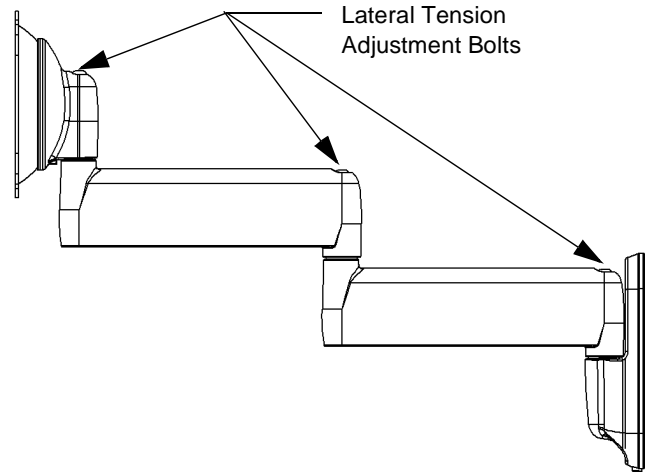

Figure 10: Adjust Lateral Tension
1. Using a 3/16" hex wrench (90), slightly tighten or loosen lateral tension adjustment bolts. (see figure 10)